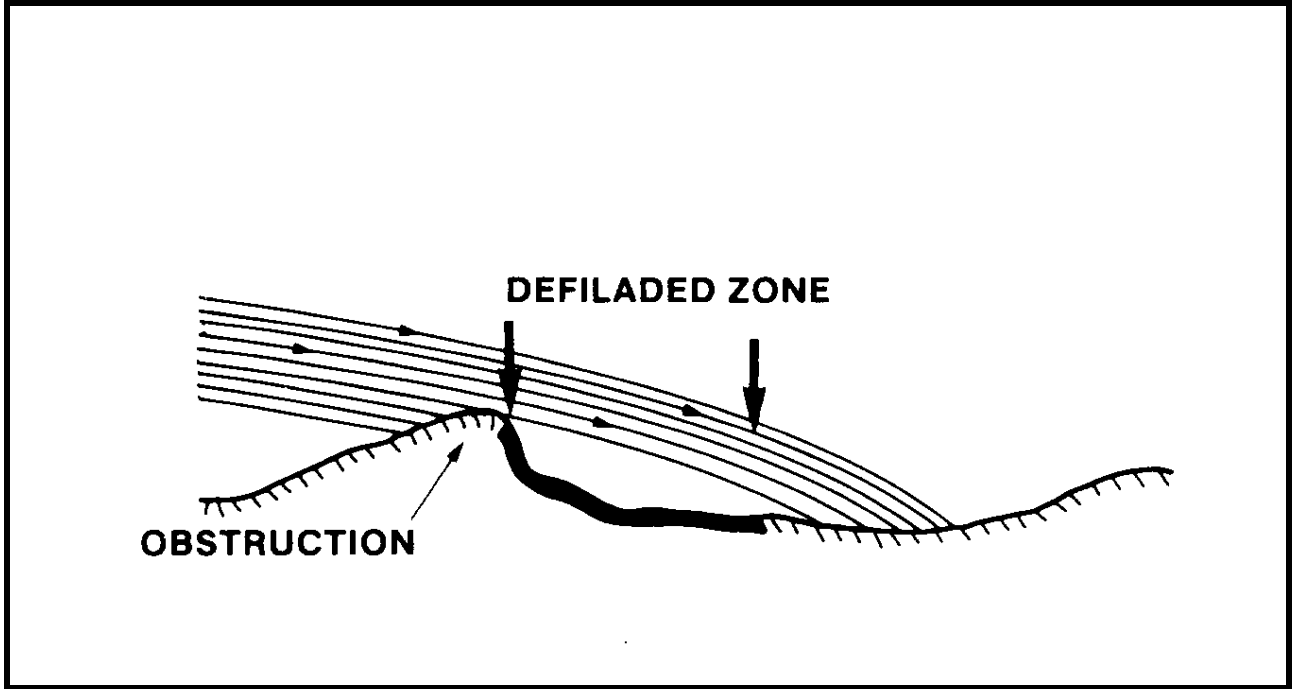

Figure 2-8 Defiladed Zone
- e. **Defiladed Zone.** The defiladed zone is the area of ground which would be included in the beaten zone were it not for an obstruction stopping a portion of the lower bullets of the cone of fire (see Figure 2-8).